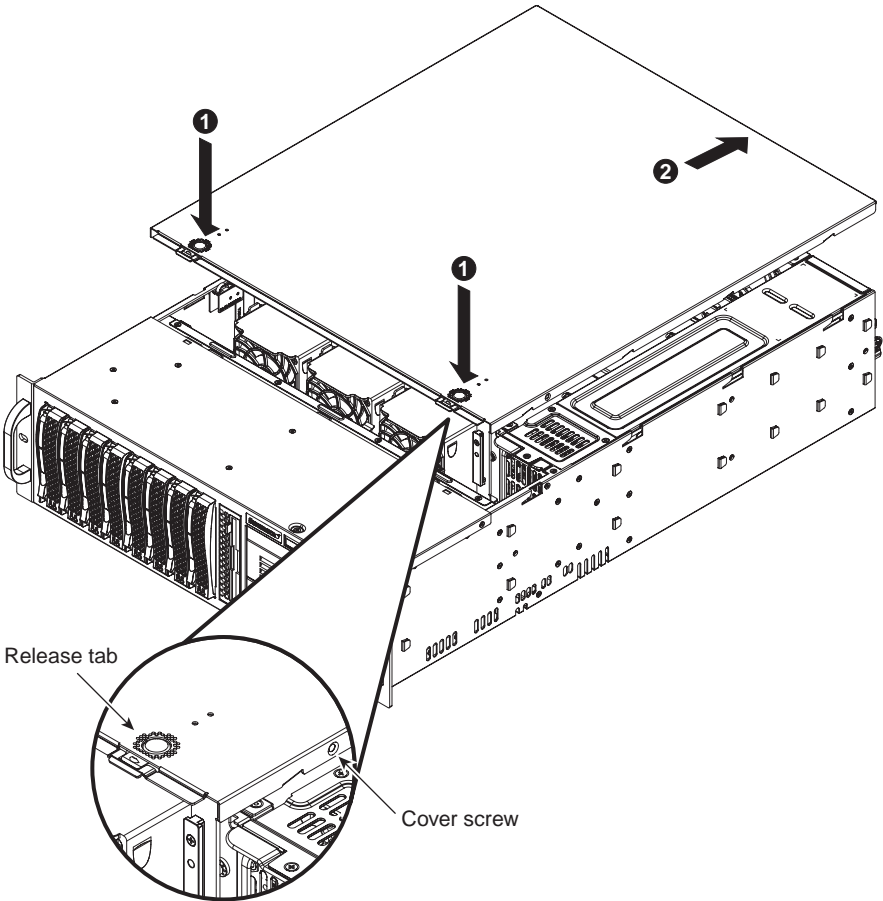

Figure 5-1 Removing the Chassis Cover
1. Press the release tabs to release the cover from the locked position. Press both tabs at the same time. It may also be necessary to remove the chassis cover screw (see Figure 5-1).